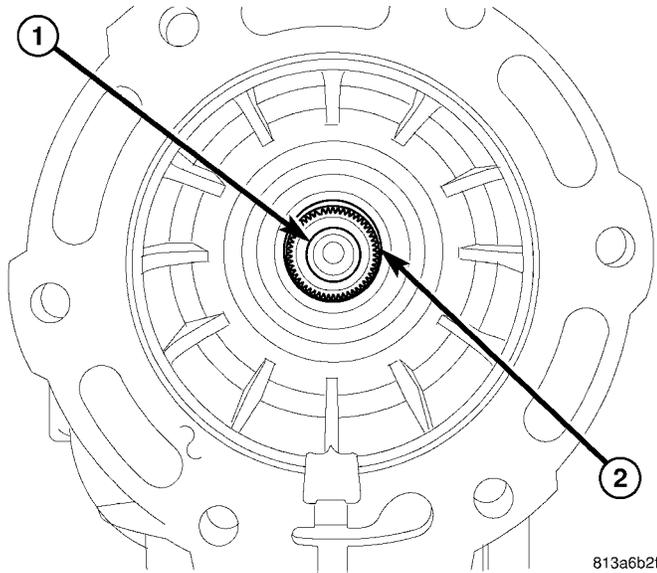

Fig. 13 OUTPUT SHAFT SNAP RING
(6) Remove output shaft (1) (Fig. 13) snap ring (2) 4x4 only.